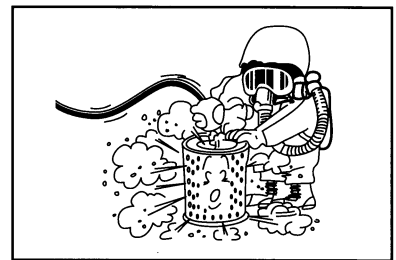

Figure 2-11
- When cleaning the filter elements with compressed air, wear the protection clothes and safe glasses. (Figure 2-11)